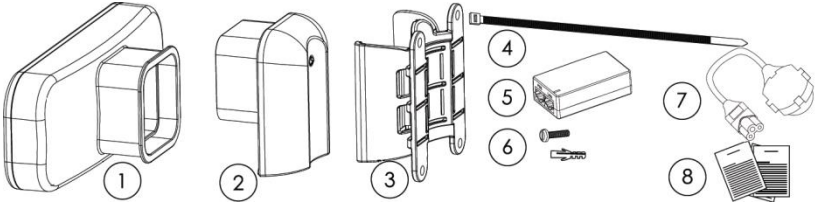

Figure 1 – Package Contents
APC Propeller 2 and APC Propeller 5 are integrated with a built in antenna, therefore the polarizations depends on the mounting position of the device (item 1 in the *Figure 1 – Package Contents*) on the insert bracket (item 2 in the *Figure 1 – Package Contents*).
- Step 2.** Insert the UTP cable into the APC unit's ETH port through the insert bracket (tem 2 in the *Figure 1 – Package Contents*) and as displayed in the picture below:
- Step 3.** Connect unit with the insert bracket (item 2 in the *Figure 1 – Package Contents*):
- Step 2.** Attach APC mounting bracket (item 3 in the *Figure 1 – Package Contents*) to the pole using plastic clamps (item 4 in the *Figure 1 – Package Contents*) as displayed below:
- Step 2.** Attach APC mounting bracket (item 3 in the *Figure 1 – Package Contents*) to the wall using screws (item 6 in the *Figure 1 – Package Contents*) as displayed below: